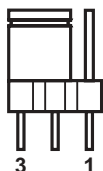

Fig. 1a
3. Set the jumper link as shown on Fig. 1a.